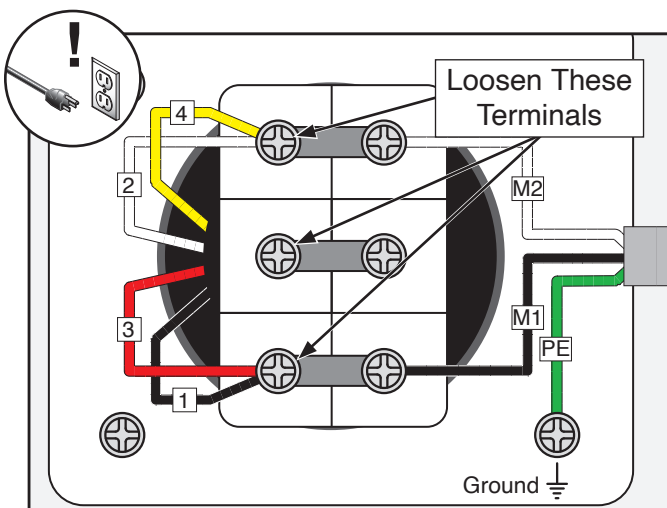

Figure 6. Motor junction box (110V).
3. Open motor junction box, then loosen three terminals indicated in **Figure 6**.